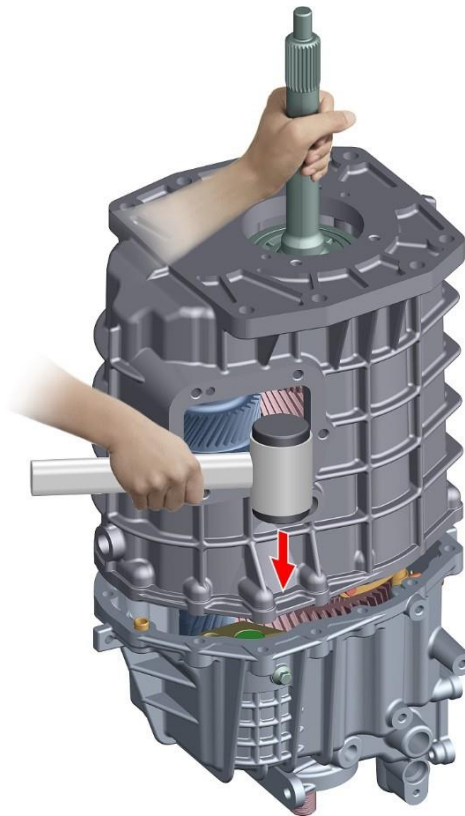

Fig. 3.25. Front housing installation
- install the front housing on the primary shaft taper bearing (Fig. 3.25) aligning the rear housing locating grommets 1 (see Fig. 3.21) with the corresponding front housing holes (it is advisable to carry out this operation by two people);